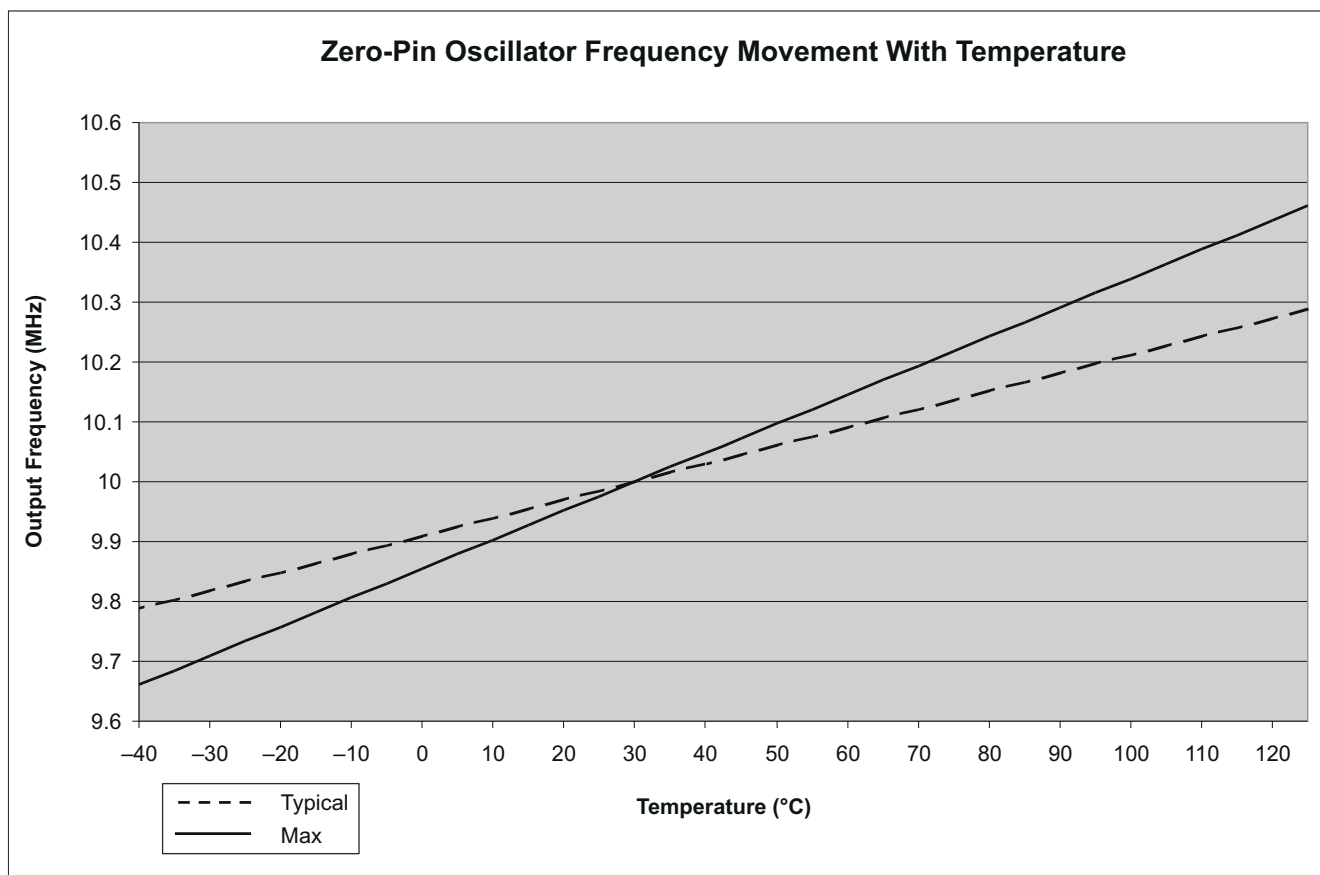

图 7-9. Zero-Pin Oscillator Frequency Movement With Temperature
- (1) Oscillator frequency will vary over temperature, see 图 7-9. To compensate for oscillator temperature drift, see the Oscillator Compensation Guide and C2000Ware for C2000 MCUs.
- (2) Frequency range is ensured only when VREG is enabled, VREGENZ = VSS.
- (3) Output frequency of the internal oscillators follows the direction of both the temperature gradient and voltage (VDD) gradient. For example: